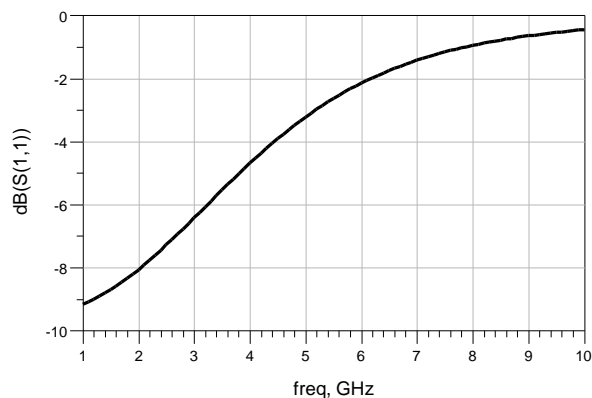
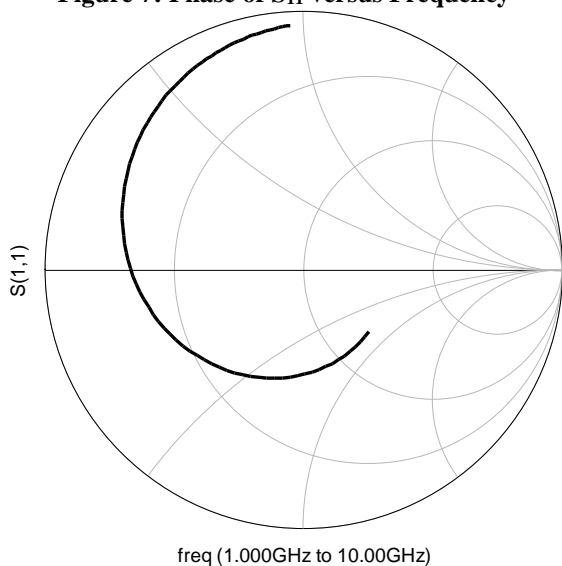

Figure 5: Magnitude (dB) of S_{11} versus Frequency
Figure 9: Smith Chart Plot of S_{11} versus Frequency
- (q) Use the **Rectangular Plot** option to generate the magnitude (dB) versus frequency and phase versus frequency of the S-parameters S_{11} and S_{12} as shown in figures 5, 6, 7 and 8. Use the **Smith Chart Plot** option to represent the S-parameters S_{11} and S_{12} as shown in figures 9 and 10.